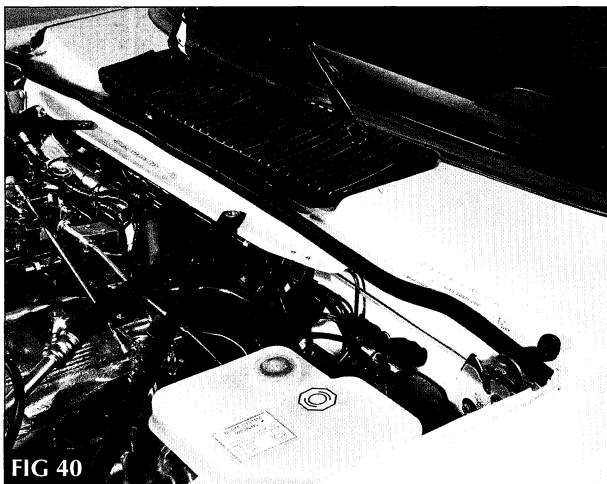

FIG 40
- 1 Check that the rear engine compartment seal is installed correctly on the body flange [FIG 40]. It should be completely seated and have no distortions.